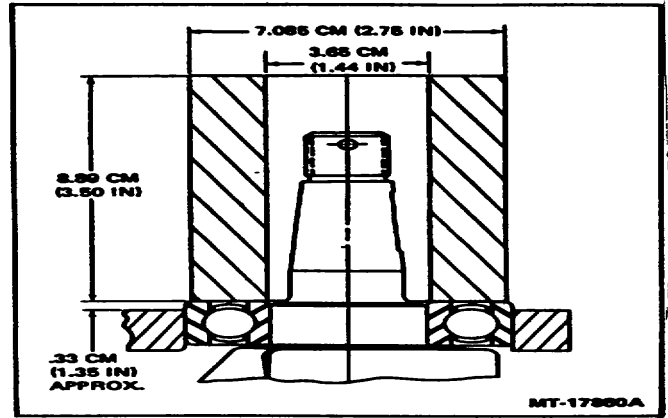

Figure 11 - Crankshaft Bearing Adapter
1. Position crankshaft in arbor press, supporting crankshaft rear. Place bearing over crankshaft and use a bearing adapter similar to that shown in figure 11. Press bearing on crankshaft until inner race is seated firmly against crankshaft shoulder.
2. Position crankshaft in crankcase. The crankshaft bearing may either be worked into the crankcase or pressed into the crankcase using the adapter shown in figure 11. Position the crankcase in an arbor press so that the crankshaft will not be obstructed at rear of the crankcase. Press bearing and crankshaft into the crankshaft with bearing flush with inside of crankcase.